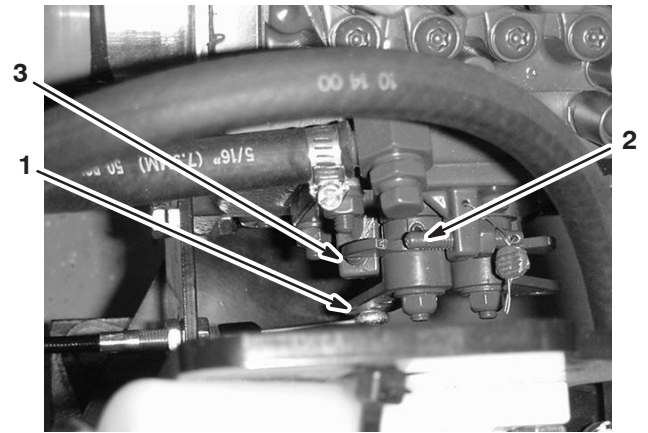
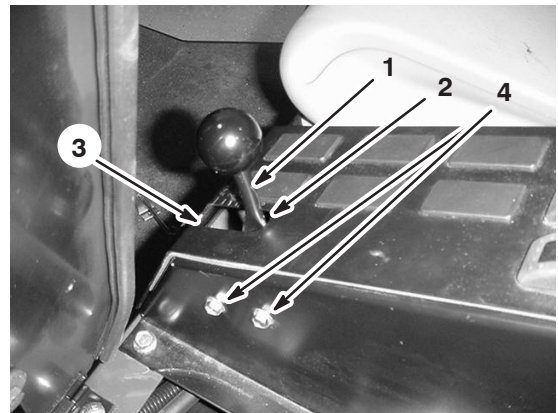

Figure 48
Figure 49
2. Adjust the high-speed position by loosening the nuts on the throttle cable at the mounting plate and adjusting it so that the throttle lever is within 1/16 inch (1.5 mm) from the front end of the slot in the console when the engine throttle arm hits the high-speed stop (Fig. 48).
3. Adjust the low idle by loosening the 2 bolts that mount the cable assembly to the center console (Fig. 49) and locating the cable assembly so that the throttle lever is within 1/16 inch (1.5 mm) of the rear end of the slot in the console when the engine throttle arm hits the low-idle stop (Fig. 48).